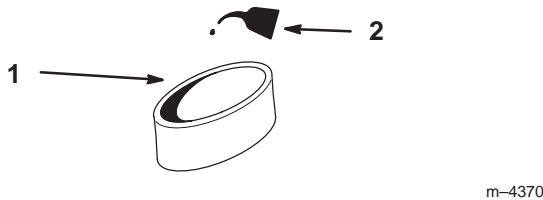

Figure 24
- Soak element in new engine oil (Fig. 24). Squeeze the element to remove excess oil.